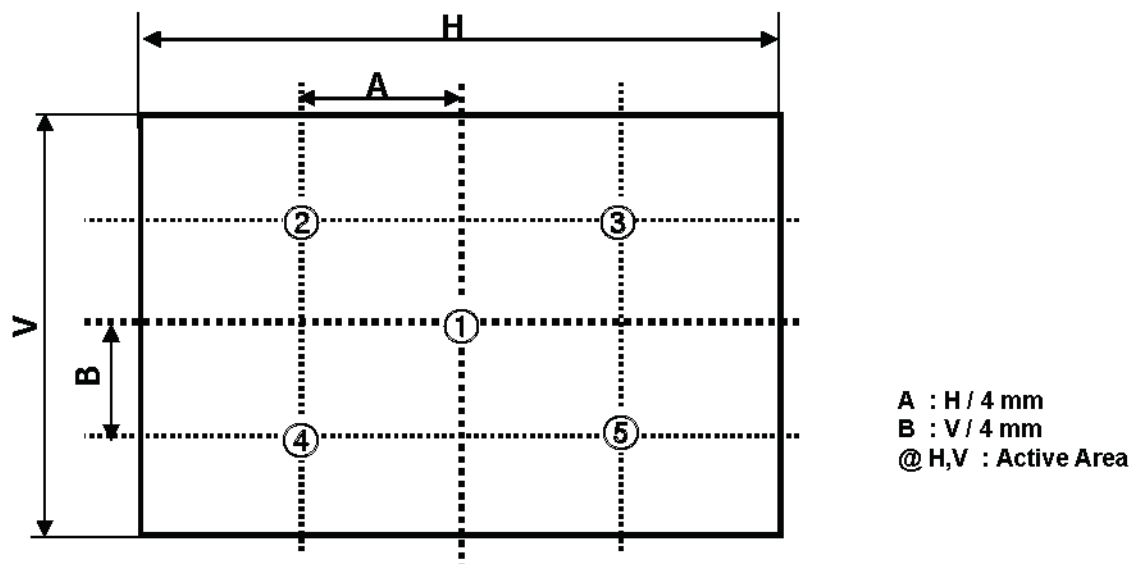

FIG. 2 5 Points for Luminance Measure
2. Surface luminance is determined after the unit has been 'ON' and 1Hour after lighting the backlight in a dark environment at  $25 \pm 2^\circ\text{C}$ . Surface luminance is the luminance value at center 1-point across the LCD surface 50cm from the surface with all pixels displaying white. For more information see the FIG. 2.
For more information, see the FIG. 2.